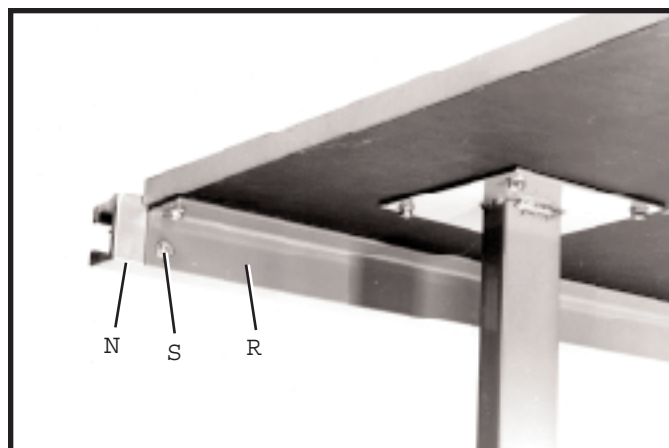

Fig. 37
24. Move front table support (R) Fig. 37, until it contacts the back of guide rail (N) and fasten with 1/4-20 x 5/8 inch-long screw and flat washer (S).